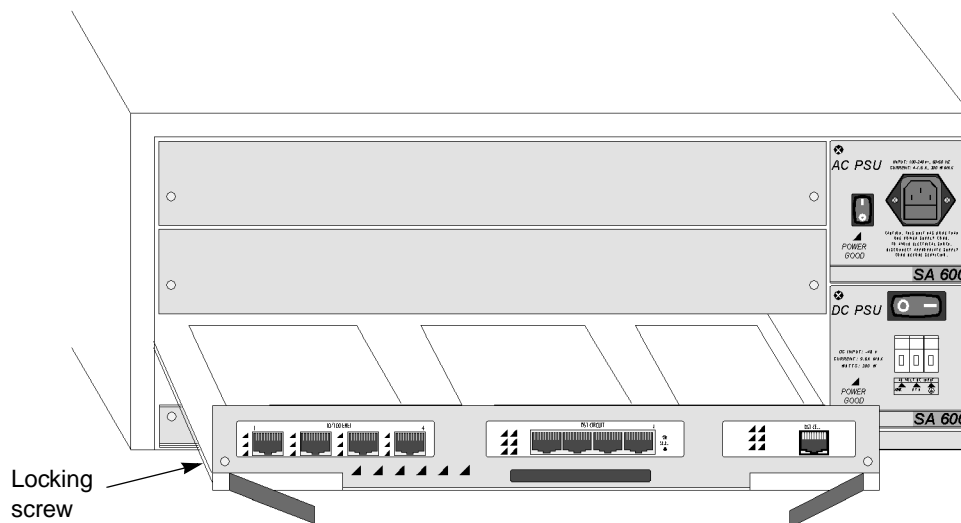

Figure 6-10. Removing an ICM (SA 600 shown)
2. Place your thumbs under the card ejectors and gently but firmly pull them away from the unit. The ICM will disengage and pop free of its connection to the chassis backplane, sliding out of the chassis as shown in **Figure 6-10**: